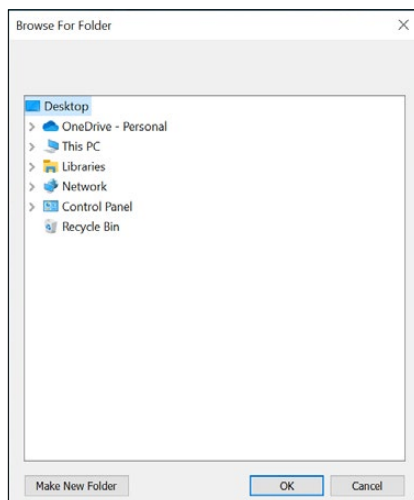

Fig. 3. Adding folders using the tool.
- b. A window will pop up (Figure 3) where you can choose the location of the main folder that will contain the Input and Output folders.